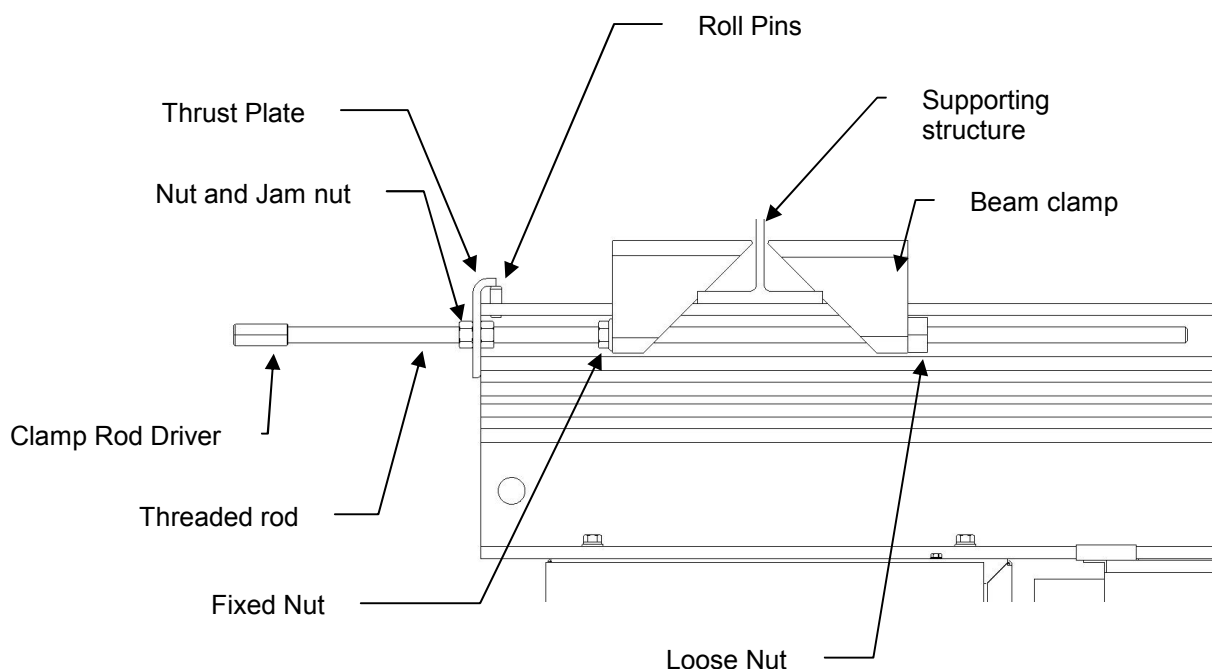

Figure 4: PowerLift Mounting Clamp
3. Make sure that the pin of the loose clamp nut engages the slot in the beam clamp to prevent the loose nut from rotating. See Figure 4.